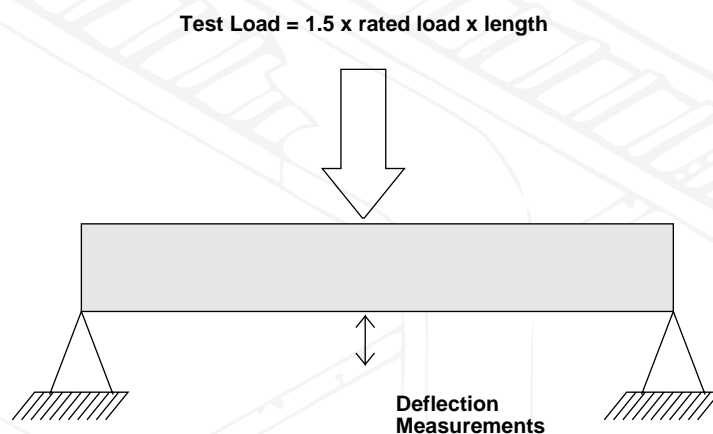

Figure 1.2
**NEMA Load Test.** The NEMA load test is a simple beam, uniformly distributed load test. (See Figure 1.2.)